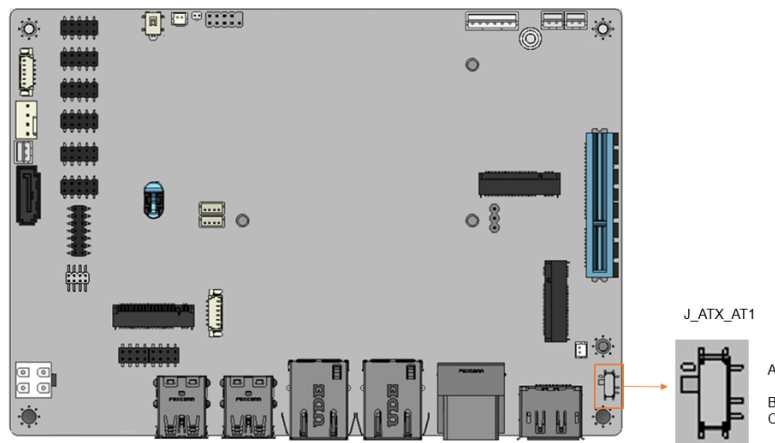

Figure 3-3: AT/ATX Power Mode Switch Location
- CN Location:** See **Figure 3-3**